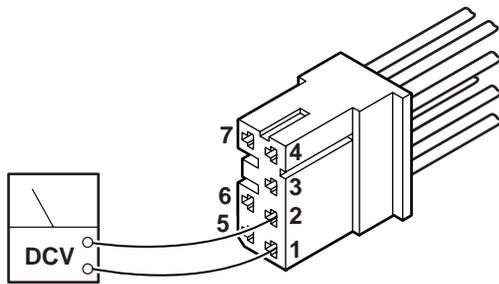

Figure 6-15. Relay Box Input
2. Using a DC voltmeter, test input power for both the BATTERY and AC120V operating modes. See figure 6-15. Meter should read approximately 24 -28 volts.
2. Test CN16 at pin 1(+) and pin 2(-) with a DC voltmeter. Meter should read approximately 24-28 volts when any function button is activated. If no voltage is present, use an ohmmeter to test the continuity from CN16 to CN4 (yellow and blue wires). Refer to figure 6-15 for CN4 pin locations.